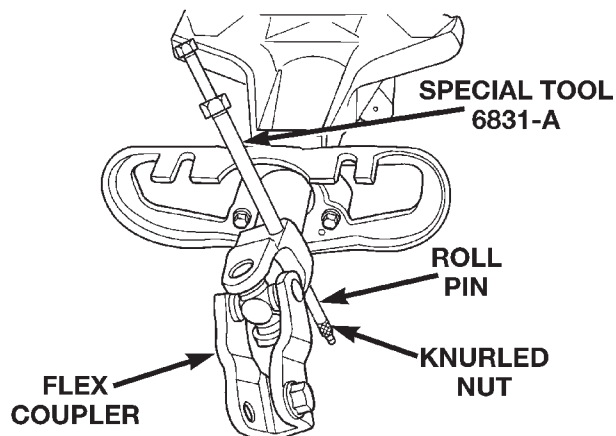

Fig. 30 Tool Set-Up For Installing Roll Pin
(1) Start roll pin into coupler prior to installing coupler on steering column shaft. Install roll pin into coupler just far enough to square roll pin to hole in flex coupler. If roll pin is installed too far, coupler will not slide onto steering column shaft.
(2) Install coupler on steering shaft until correctly positioned to allow roll pin to be installed in coupler.
(3) Install Puller, Special Tool 6831-A, through center of roll pin and install knurled nut (Fig. 30).
(4) Using Puller, Special Tool, 6831-A, (Fig. 30) install roll pin into the coupler until spring pin is fully installed through both sides of the coupler.